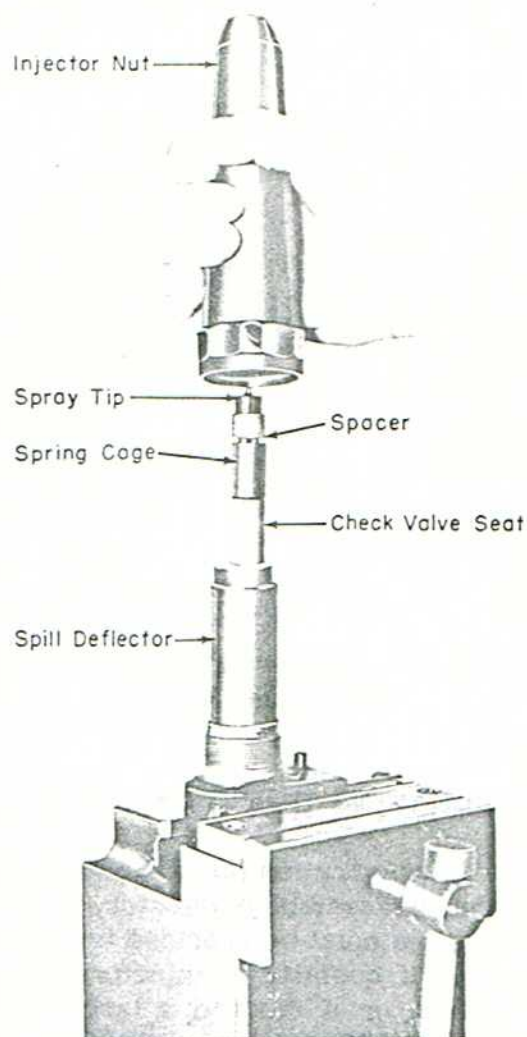

Fig. 7 - Removing Injector Nut
6. After the nut is removed, Fig. 7, the exposed stacked parts can be removed from atop the bushing.